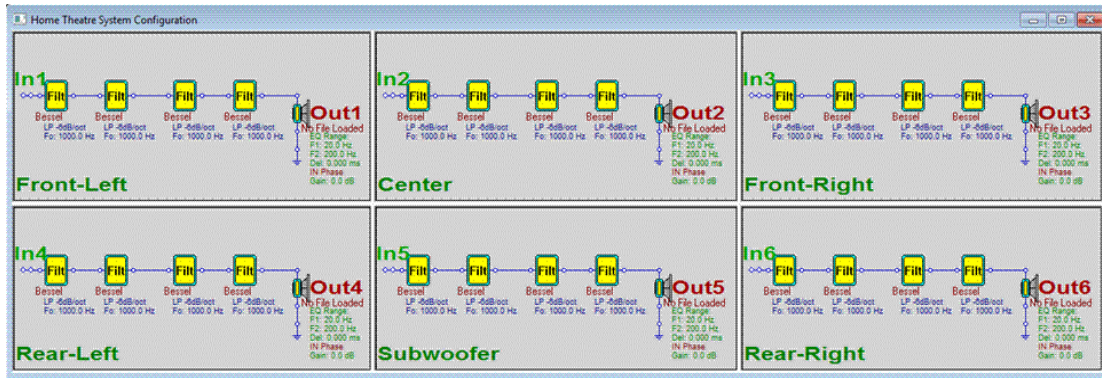

Figure 66. Home Theater 6 option.
- **Home Theater Option 6:** All channels are 1-ways. This allows the Ultimate Equalizer to be used to provide only amplitude and or phase equalization of any conventional speaker with passive crossover. Figure 66.